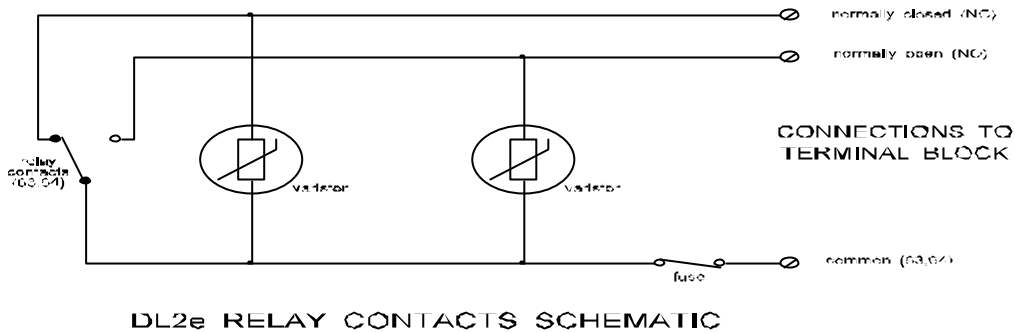

Figure 34 - DL2e relay circuit
- Fit jumper(s) in the appropriate position(s) on the rear of the terminal panel. Otherwise, to avoid any risk of shorting out the logger's power supply, ensure that they are removed (see Figure 34 - DL2e relay circuit).